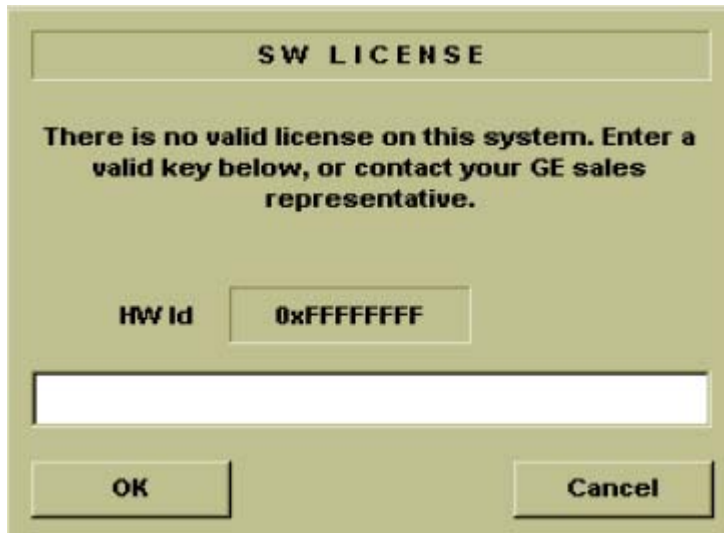

Figure 7-30 Asking For Option Keys
- 4.) The systems will show a message asking to enter the Option keys. The Hardware Id Shown in this screen will be different from the actual Hardware Id on the system. A sample box can be seen in Figure 7-30 on page 52 below.
If the Hardware ID appearing in Figure 7-32 on page 53 does not match the Hardware ID in Figure 7-30 on page 52 , then the U5 EPROM will have to be replaced. This replacement process is given below.